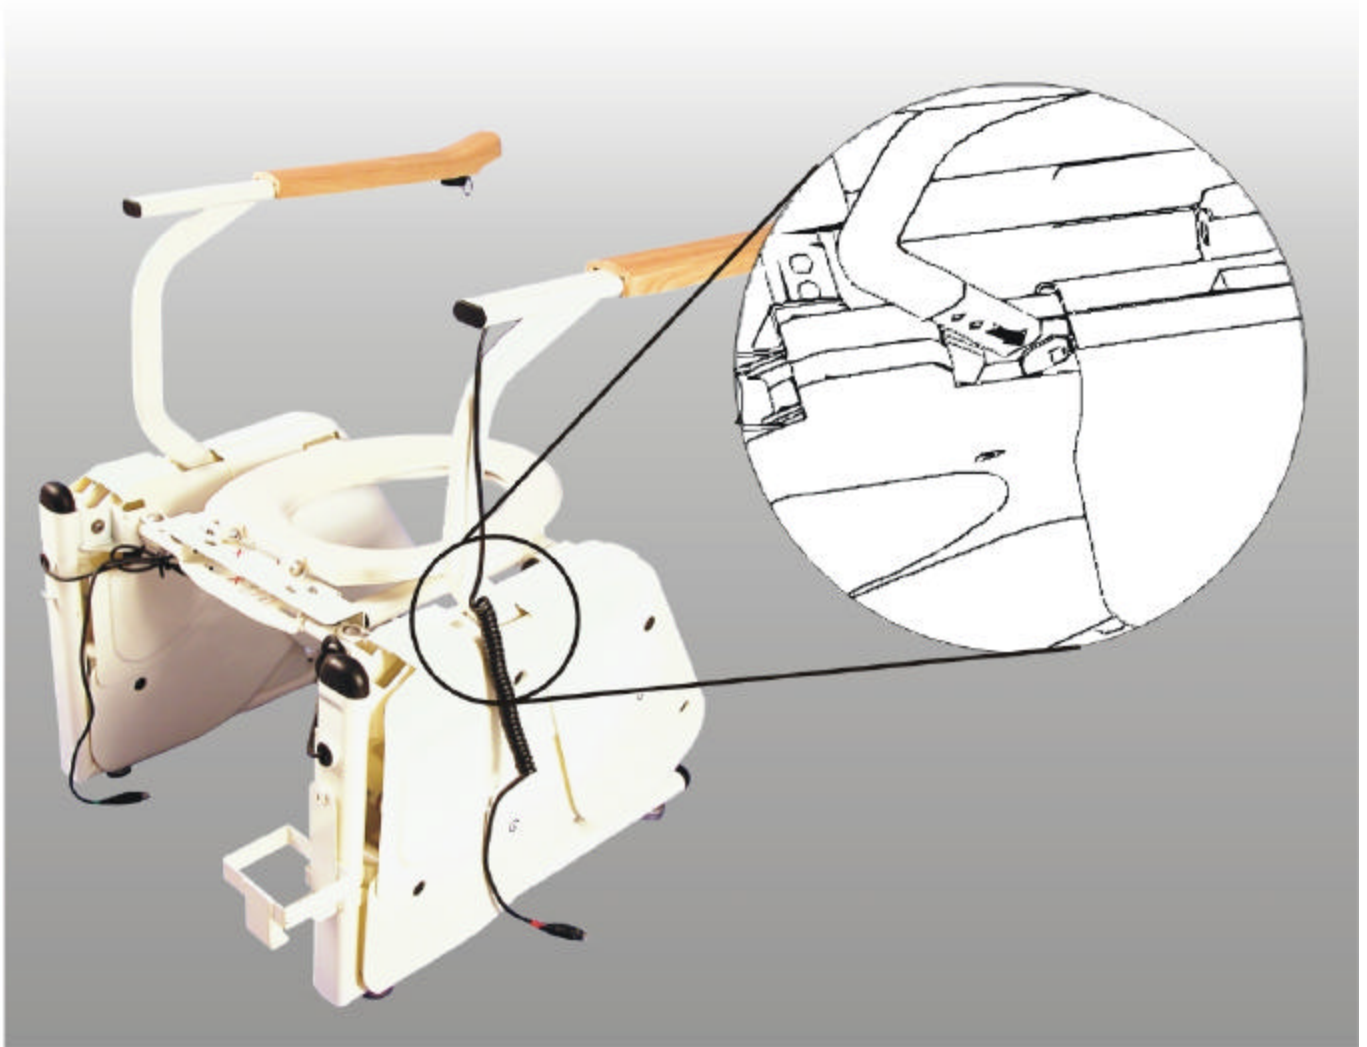

Figure A-3. Armrests
- Step 5.** Position each armrest into its mount. Make certain the armrest with the control cable is positioned on the predetermined side, as shown in Figure A-3.